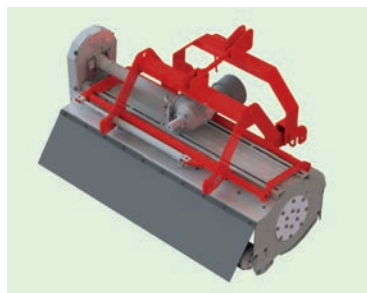

Fig. 2)
- front and rear attachment with 50 cm of hydraulic displacement (fig. 2)